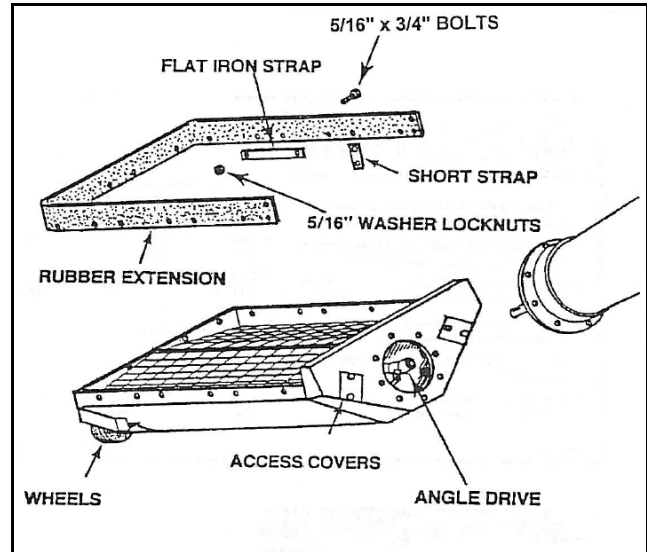

Figure 3.2
5. Install the 2 wheels to hopper with a washer and cotter pin. The washer should be between wheel and cotter pin (Figure 3.2).
- ➔ 6. **8" & 10" Only:** Install rubber extension on inside hopper lip with twenty 5/16" x 3/4" bolts and washer locknuts, and 8 long and 2 short flat iron straps (Figure 3.2).
- ➔ 7. **13" Only:** Install the 2-piece rubber extension on inside hopper lip with twenty-eight 5/16" x 3/4" bolts and washer locknuts, ten long and two short flat iron straps. (Figure 3.2)